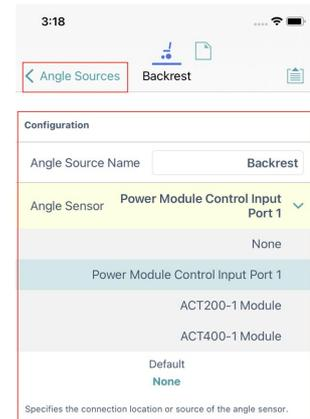

Figure 98: Edit an Angle Source
- From your selected angle source (*Figure 98*), tap on **Angle Source Name** and rename the source to something more appropriate and memorable ('Backrest', for example, if the source measures the angle of the backrest).